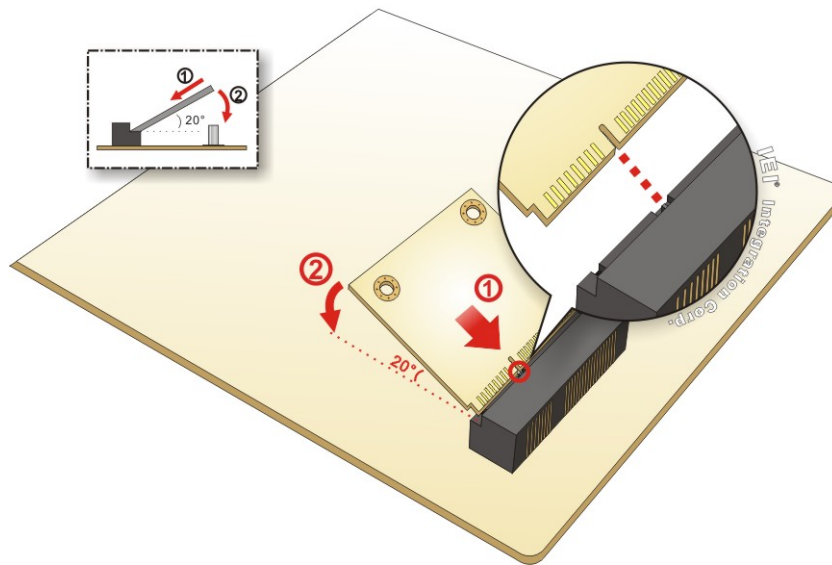

Figure 4-6: Inserting the Half-size PCIe Mini Card into the Slot at an Angle
Step 3: Insert into the socket at an angle. Line up the notch on the card with the notch on the slot. Slide the PCIe Mini card into the slot at an angle of about 20° (Figure 4-6).